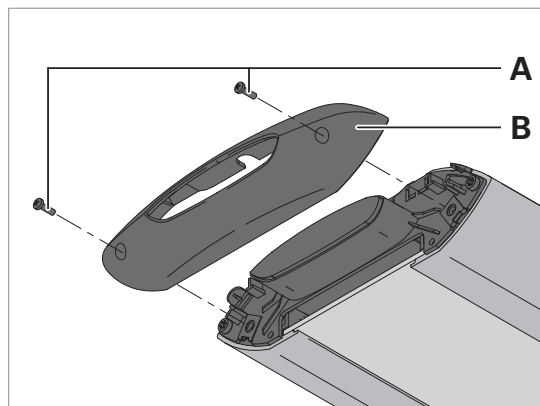

Fig. 16: Opening the luminaire.
- ▶ Unscrew the screws **A** from one side part of the luminaire, see Fig. 16.